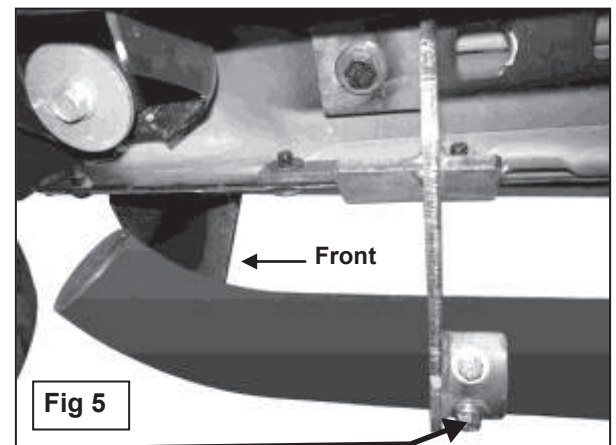

Fig 5
5. Place the passenger-side side bar onto the mounting brackets and secure it using six 10mm x 35mm hex bolts, six 10mm lock washers and six 10mm flat washers, see figure 5. **Note:** Mounting cradles on the brackets should be inline and pointing toward the rear of the vehicle for proper installation. Snug the hardware, but do not fully tighten.